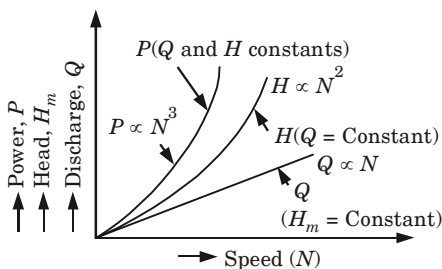

Fig. 5.19.1.
2. Fig. 5.19.1 shows main characteristic curves of a pump.